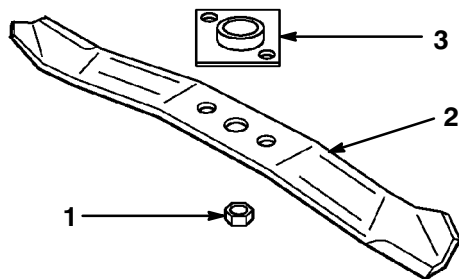

Figure 29
2. Remove the blade nut (Fig. 29).
3. Remove the blade from the blade driver (Fig. 29).
1. Install the blade driver onto the crankshaft (Fig. 29).
2. Position the blade over the blade driver lugs with the curved ends facing toward the lawn mower housing (Fig. 29).
3. Secure the blade with the blade nut (Fig. 29).
4. Remove the blade nut and the blade (Fig. 29). Refer to *Removing the Blade* on page 19.